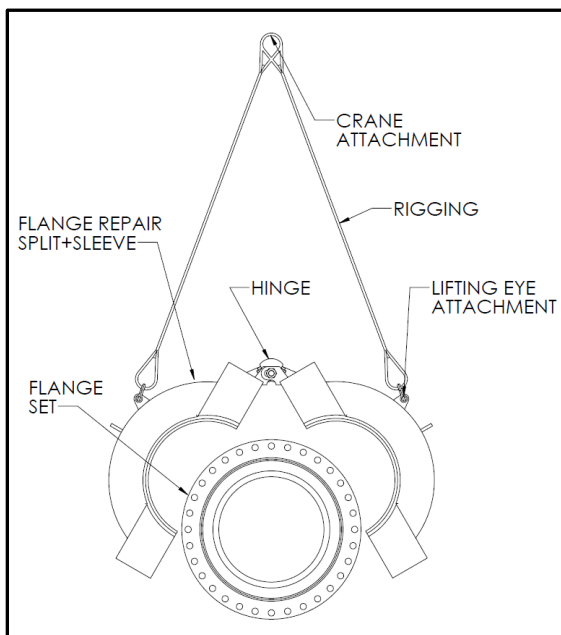

Figure 8
3. Attach properly sized rigging such as chains, cables, or straps to a single point crane attachment. The rigging should be sufficiently long enough that the rigging doesn't interfere with opening and closing of the fitting as shown in Figure 8.
4. Lift the fitting up from the single point crane attachment. The Flange Repair Split+Sleeve will open up as shown in Figure 8.
5. Position the fitting over the pipeline and slowly lower the fitting onto the pipeline as shown in Figure 8. The inside of the fitting should come in contact with the pipeline, and the fitting will start to close as it is lowered. Some fittings may require some additional side force to close the fitting around the pipe. Keep all body parts clear of the inside of the fitting at all times as the fitting is being lowered onto the pipe. This is to ensure safety in the event that the fitting slams closed rapidly.